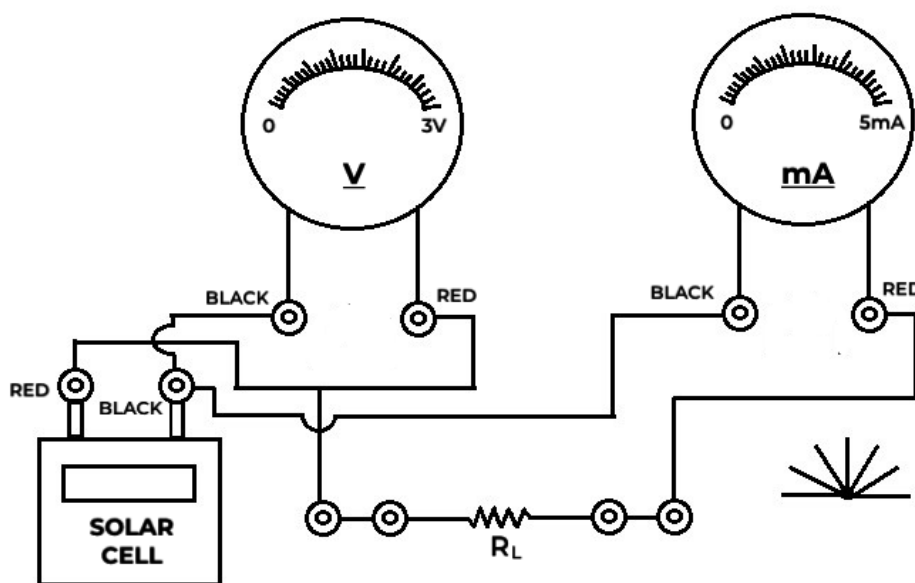

Fig. 2 Solar Cell Characteristics Apparatus
1. Place the solar cell and the light source (100 watt lamp) opposite to each other on a wooden plank. Connect the circuit as shown by dotted lines (Fig. 2) through patch chords.
- 4) Make the connections to the photo-resistor and multimeter as shown in fig.2